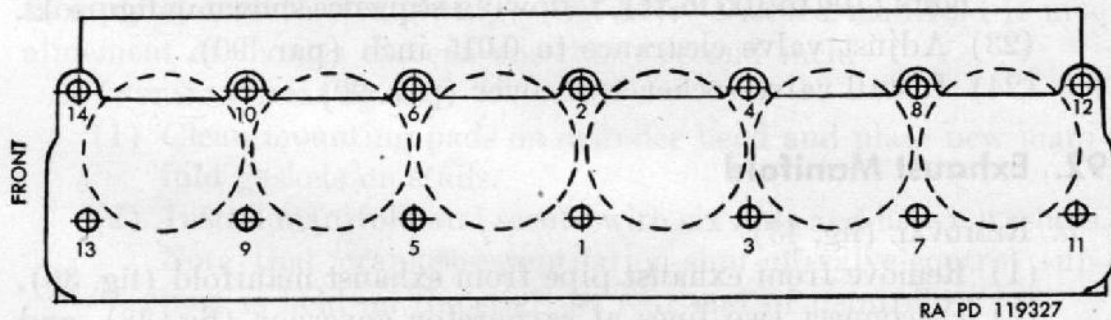
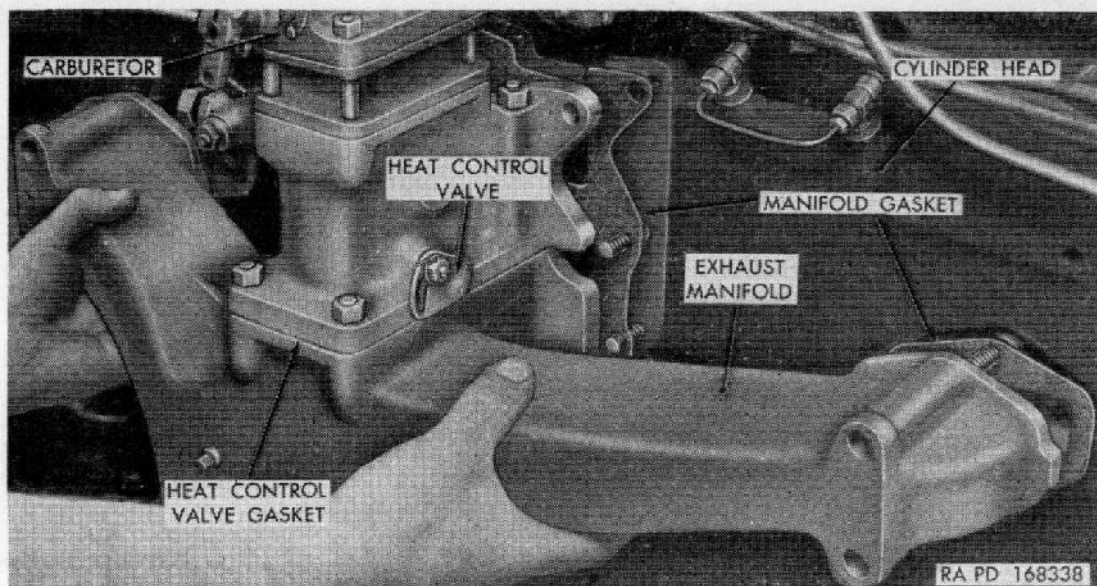

Figure 42. Torque tightening sequence.
Figure 43. Removing exhaust manifold.
- (6) Place valve-rocker arm assemblies on cylinder head. Space rocker arms on shafts so as to center over valve stems and push rods.
- (7) Install two long (special) cylinder-head bolts (7 and 9) and washers in second hole from each end through rocker-arm shafts. Do not tighten. Install five medium length bolts and washers in remaining holes through rocker-arm-shaft supports. Do not tighten. Install two special short bolts in second hole from ends (8 and 10) and five short bolts in remaining holes (fig. 42). Do not tighten.
- (8) Cylinder-head bolts must be tightened evenly and in a definite sequence to prevent distortion of cylinder head. Using a torque wrench, start at bolt number 1 (fig. 42) and tighten all bolts in numerical order from 100 to 105 lb-ft torque.
- (19) Connect thermostat bypass line at water manifold.
- (20) Install radiator inlet hose.
- (21) Fill cooling system (par. 121). Adjust intake valve clearance to 0.016 inch and exhaust valve to 0.018 inch with engine cold as described for 0.015-inch adjustment (par. 90) for engine at normal operating temperature. Because the valves will expand as the engine temperature rises, these settings will approximate a 0.015-inch setting at normal operating conditions. Start engine (par. 41) and run until normal operating temperature is reached (160° to 180° F.).
- (22) After engine is warmed up, check tightness of cylinder-head bolts (100 to 105 lb-ft), following sequence shown in figure 42.
- (23) Adjust valve clearance to 0.015 inch (par. 90).
- (24) Install valve-rocker-arm cover (par. 90).
a. REMOVAL (fig. 43).
- (5) Disconnect shut-off-valve control wire and ventilation line from shut-off valve at rear of manifold heat-control valve assembly (fig. 43).
- (7) Remove two cap screws and two clamps from manifold heat-control valve flange.
- (8) Remove six nuts holding exhaust manifold to cylinder head and pull manifold, with attached assemblies, from cylinder head (fig. 43).
- (9) Remove four nuts from studs holding manifold heat-control valve assembly to exhaust manifold and lift valve assembly and carburetor from manifold (fig. 43).
c. INSTALLATION (fig. 43).
- (1) Clean mounting pads on cylinder head and place new manifold gaskets on studs.
- (2) Install manifold and secure with six nuts and heavy washers. Note that crankcase-ventilation-shut-off-valve-control support is held on the studs at rear end of manifold.